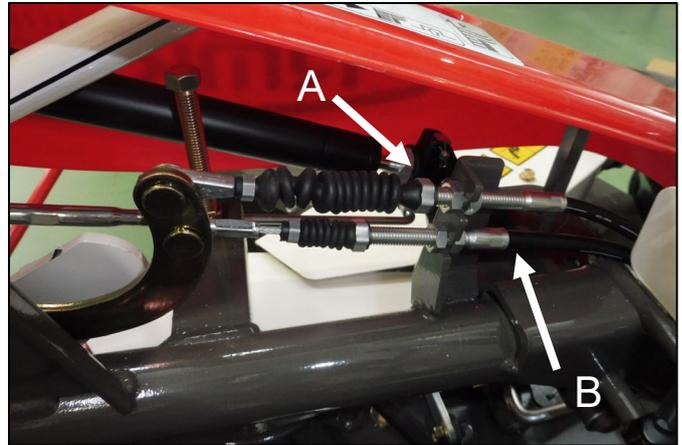

Figure 40
- If the belt is slipping, tighten the wire with the adusting nut (B, Figure 40) until the wire spring start to be tightened.
- If blade belt does not stop in 5 second, tighten the wire with the adusting nut (A, Figure 40).